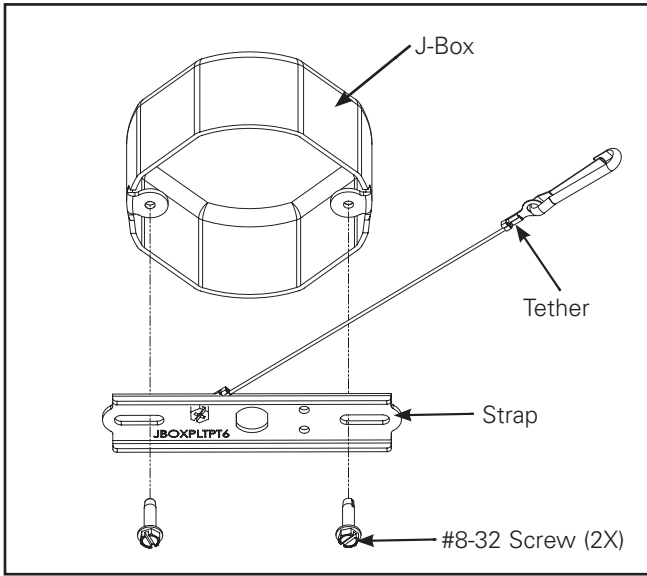

Figure 1
1. Connect the mounting strap to the J-Box (supplied by others) with 2 #8-32 screws. (Figure 1) A tether is supplied to hang the cylinder from strap during wire connections (Figure 1) The tether anchors to the yoke arm with a spring clip in one of two locations shown in Figure